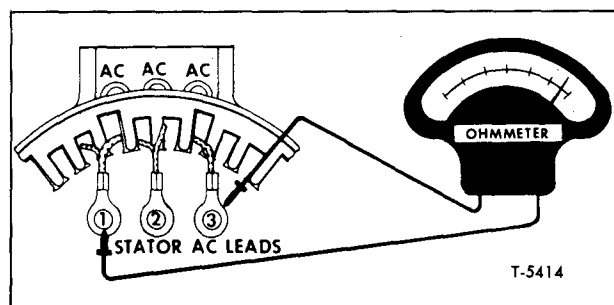

Figure 12—Stator Winding Continuity Test (Typical)
4. Connect an ohmmeter between stator leads as shown in figure 12. Each phase should show a closed circuit or indicate a low resistance. If ohmmeter reading is high, stator windings are open.